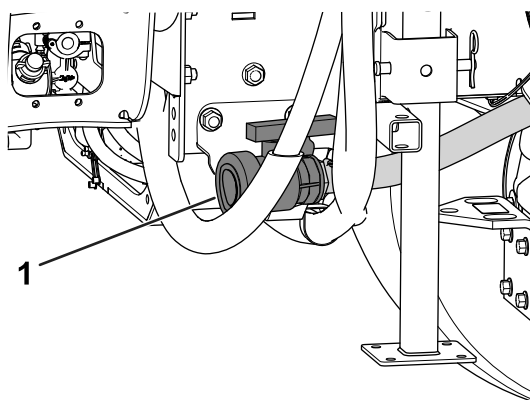

Figure 92
2. Locate the tank drain valve on the right side of the machine (Figure 92).